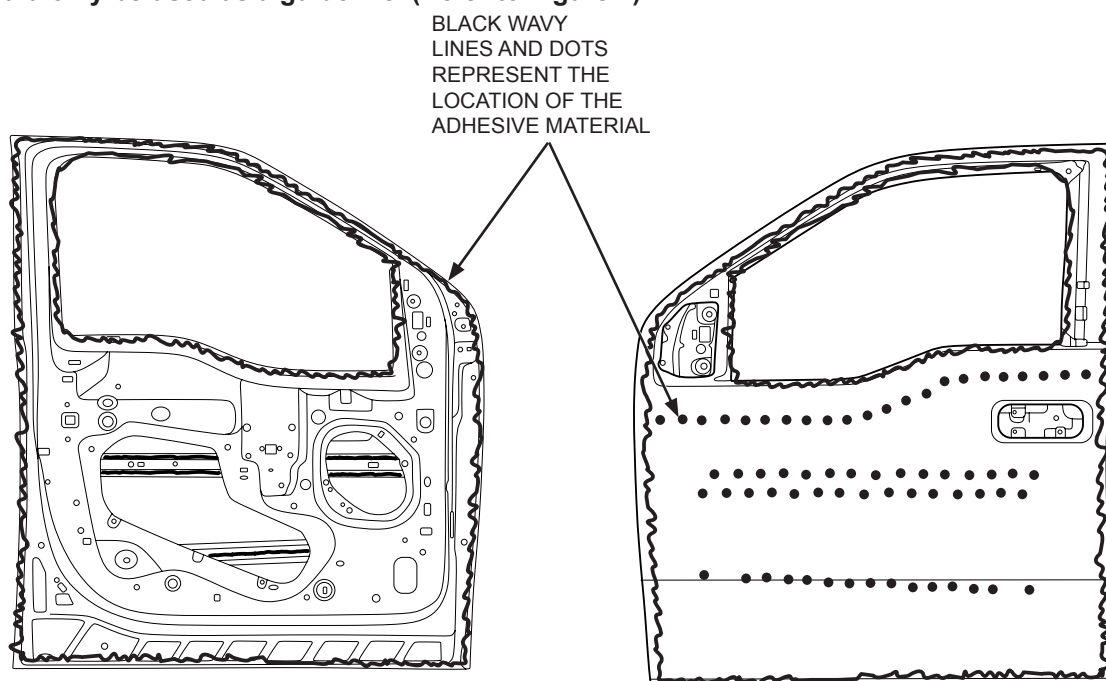

FIGURE 1
15. Apply metal bonding adhesive to the following areas: service replacement hem flange, flutter beam-to-outer panel, and outer belt reinforcement-to-outer panel. (Refer to figure 1).
NOTE: The location of SPR and adhesive shown below are based on the original production drawings and should only be used as a guideline. (Refer to Figure 1).